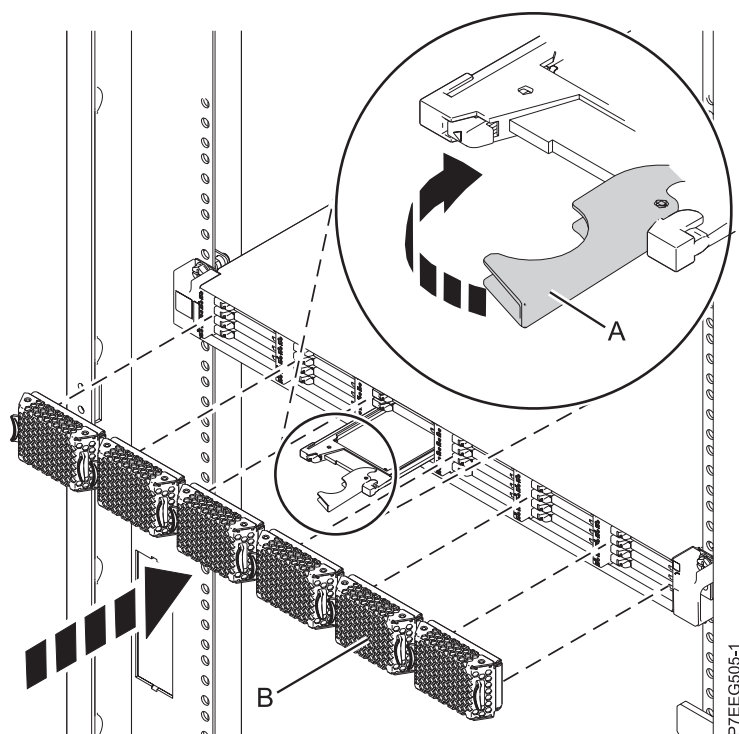

Figure 26. Replacing a solid-state drive in the ED/R1 PCIe storage enclosure.
4. When the solid-state drive identify LED flashes, slide the solid-state drive all the way into the ED/R1 PCIe storage enclosure until it is fully seated. Then rotate the handle (A) to the locked position. See Figure 26.
5. Install the bezel (B).